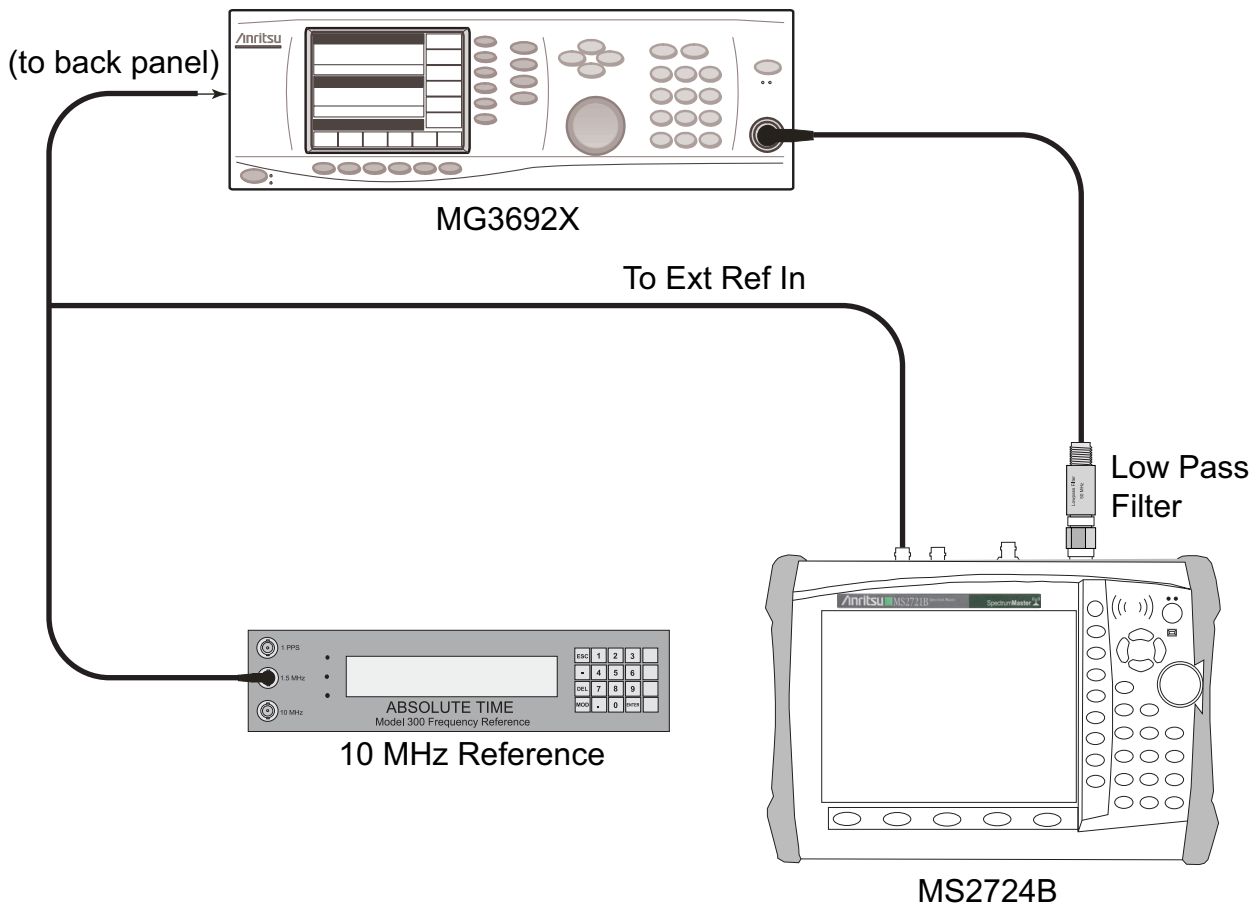

Figure 2-4. Spectrum Analyzer Second Harmonic Distortion – Test Setup
2. Connect the synthesized signal generator output to the Spectrum Analyzer RF In connector of the MS2723B or MS2724B through the 50 MHz low-pass filter, as shown in Figure 2-4.
5. Press the **Shift** key and then the **Trace** (5) key. Press Trace A Operations and set # of Averages to 5.